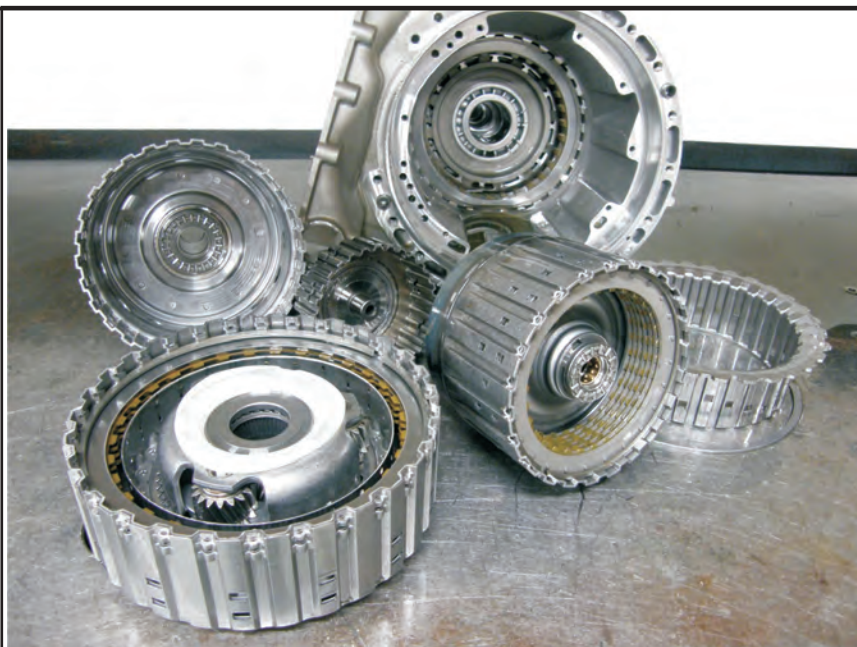

Figure 1
**CAUSE:** During the rebuilding process, modifications for tighter clutch clearances were performed to improve shift quality. This type of modification has been a successful for the most part but no so with the ZF6HP transmission (Figure 1). The adaptive process is based on friction surface area per friction plate which requires looser clearances for proper shift overlap to take place. When clearances are brought to the tighter end, it interferes with the computer's calculating process to make that shift. It will not be able to properly adjust for the overlap resulting in bumpy shifts.